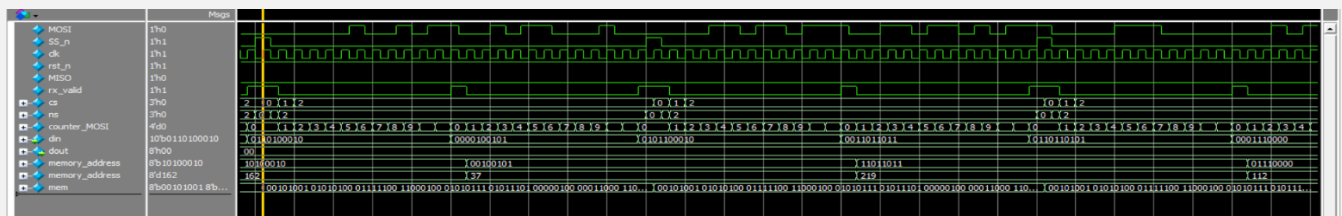

Figure 1: WRITE operation check
- 1.1. Figure 1: WRITE Operation Check